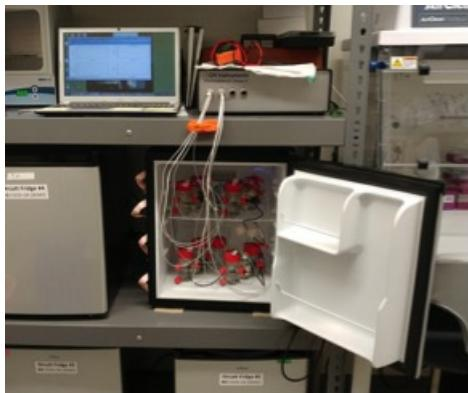

Figure 4. Potentiostat and 4-cell setup in fridge.
- If experiment is being run at cold temperature, carefully transfer MFCs and closed positive control to fridge and tape door closed to incubate in the dark (Figure 4). If the experiment is being done at room temperature in the dark, a cupboard, foil wrap or upturned box are options.